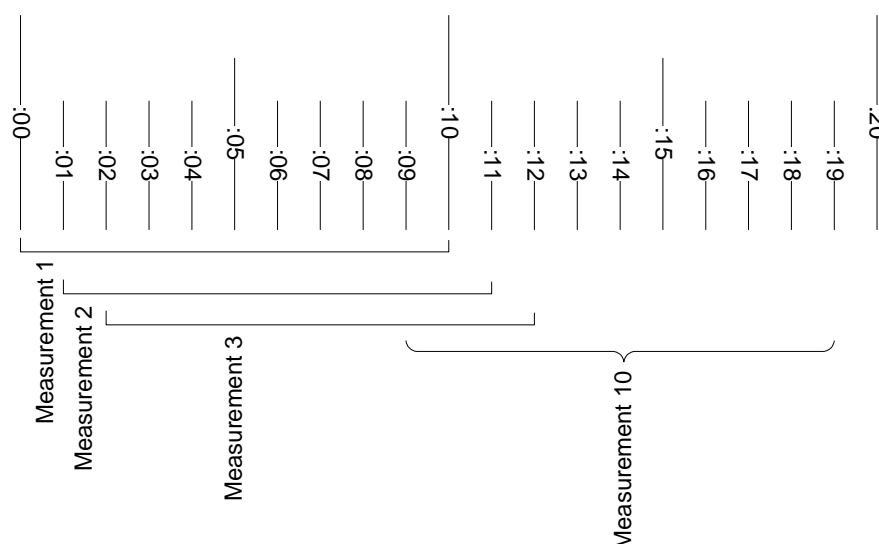

Figure 4-5 Short-term Measurements
Short-term measurement mode displays the Leq(A) measurement value for *only* the previous ten-second period. For example, the first measurement value is for the time interval between 0 and 10 seconds, the next between 1 and 11 seconds, next between 2 and 12 seconds, and so forth. Figure 4-5 illustrates these measurements.